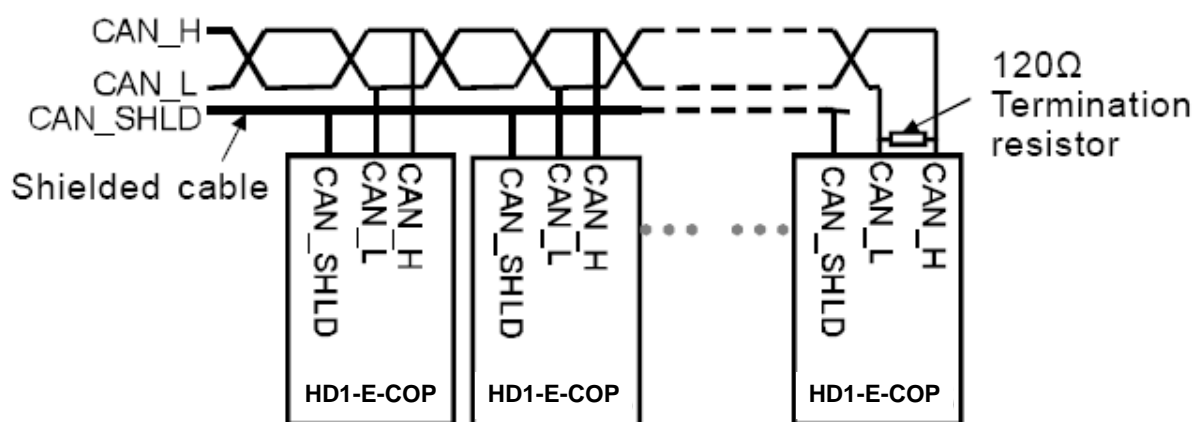

Fig 2 Wiring diagram
Select either DB9 female (A) or 3pin open terminal (B) for communication terminals and try to choose shielding wire for bus cable. Customers are advised to connect the shielded cable to the PE terminal of the inverter when using switch on terminating resistor when the communication card becomes terminating slave station. See the wiring diagram in Fig 2.